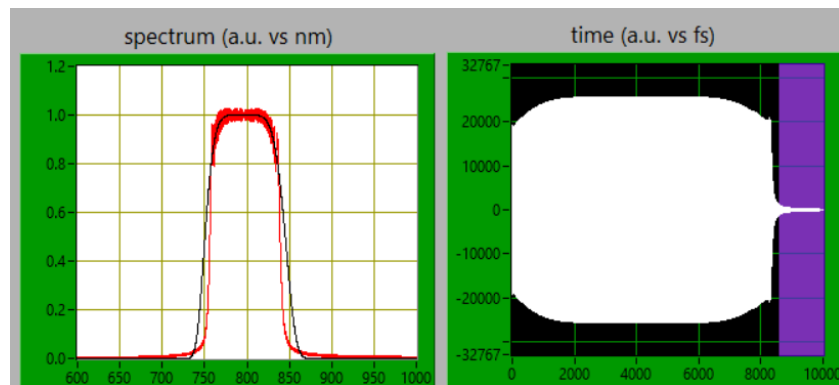

Figure 3.8: Chirped Pulse used to adjust the x and y position
2. increase the second order phase coefficient ("order 2") on the GUI to produce a quasi-flat signal covering the full time window (Figure 3.8). Do not pay attention to the red curve on the spectrum graph. The signal is willfully truncated in the crystal to adjust the superposition of the optical incident pulse with the acoustic wave. Please keep in mind that for other Dazzler operations, the red and black curves have to be superimposed.
7. check as the spectral clipping displayed on the spectrum graph is the same than the one measured on the diffracted spectrum (Figure 3.8).